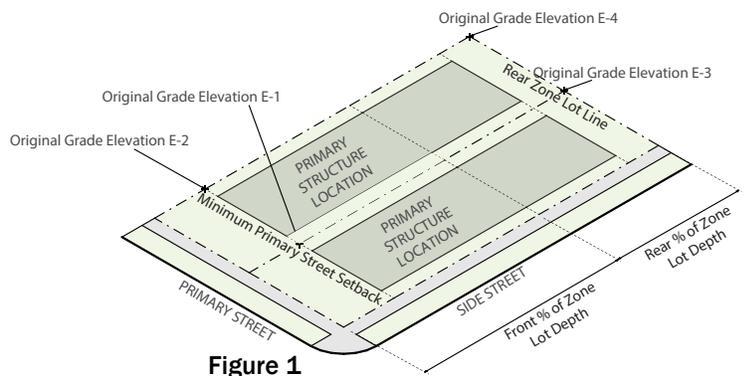

Figure 1
- On your site plan, draw a line indicating the boundary between the “front” 65% (80%) of the total zone lot (property) depth and the “rear” 35% (20%) of the total zone lot (property) depth. See Figure 1.
- Establish (through a professional survey or by taking spot elevations) the original grade elevation at the points where the side interior property lines intersect the minimum setback line established in step 1.A above. See Figure 1, points E-1 and E-2. *Note:* On a corner lot, there will only be one point of intersection because there is only one side interior property line (the other is a street property line).
- On your site plan, starting at the minimum setback line (Step 1.A.) and at the Front Base Plane elevation (Step 1.C), draw the Front Base Plane as a horizontal plane extending toward the rear of the property to the boundary line indicating the front 65% (80%) of the total lot depth (Step 1.B). See Figure 1.
- A. Establish (through a professional survey or by taking spot elevations) the original grade elevation at the points where the side interior property lines intersect with the property's rear property line. See Figure 1, points E-3 and E-4. *Note:* On a corner lot, there will only be one point of intersection with the rear property line because there is only one side interior property line.